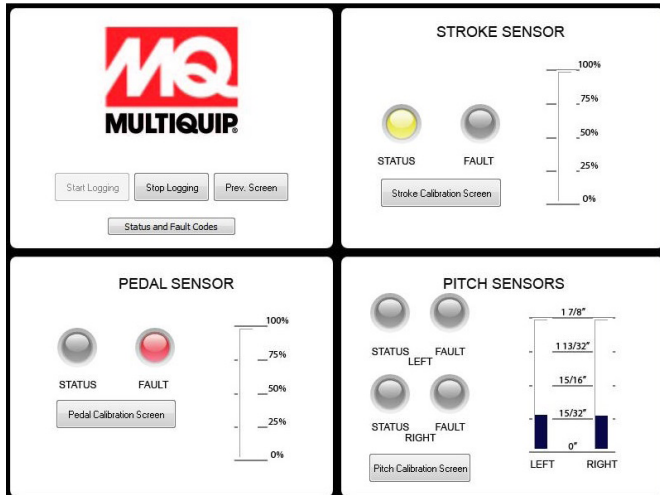

Figure 31. Calibration Button
3. Click "PEDAL CALIBRATION SCREEN" button in "PEDAL SENSOR" frame (Figure 31).